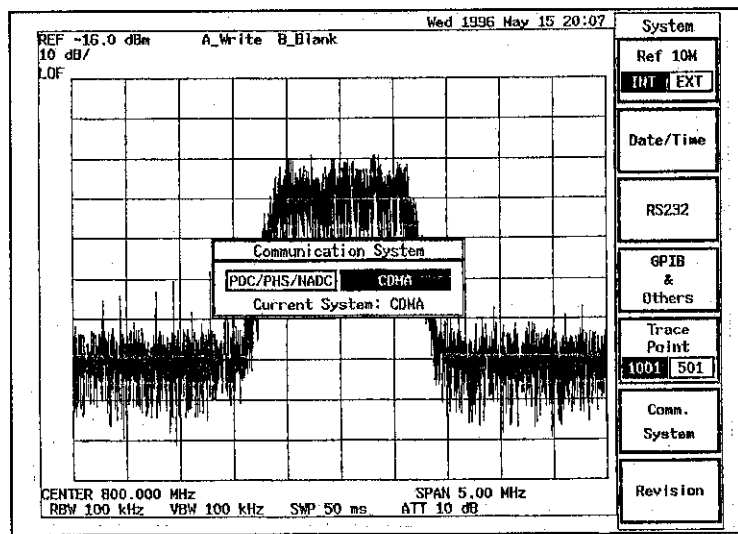

Figure 3-20 Dialog Box
- 1 Press  then  keys to display the dialog box in Figure 3-20.